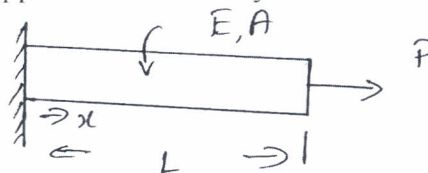

Fig Q3(b)
- b. Determine the displacement in the system shown in Fig Q3(b) and hence determine the displacement at the point of application of load by Galerkin method.